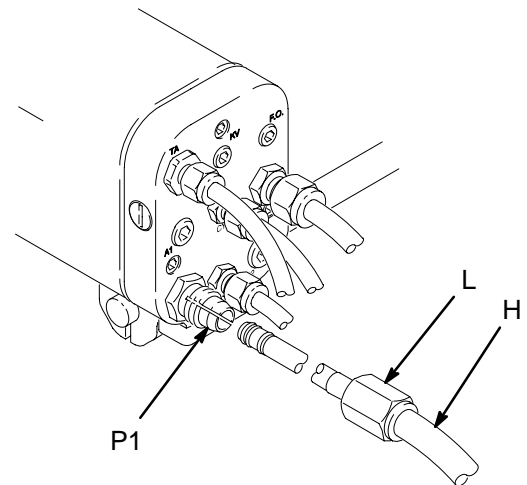

Fig. 13
2. Inspect the condition of the o-rings (G) on the hose barbed-fitting. Replace the o-rings if they are worn or damaged.
3. Unscrew the strain relief nut (L) from the fluid inlet fitting (P1), and slide the nut onto the hose (H). See Fig. 13.